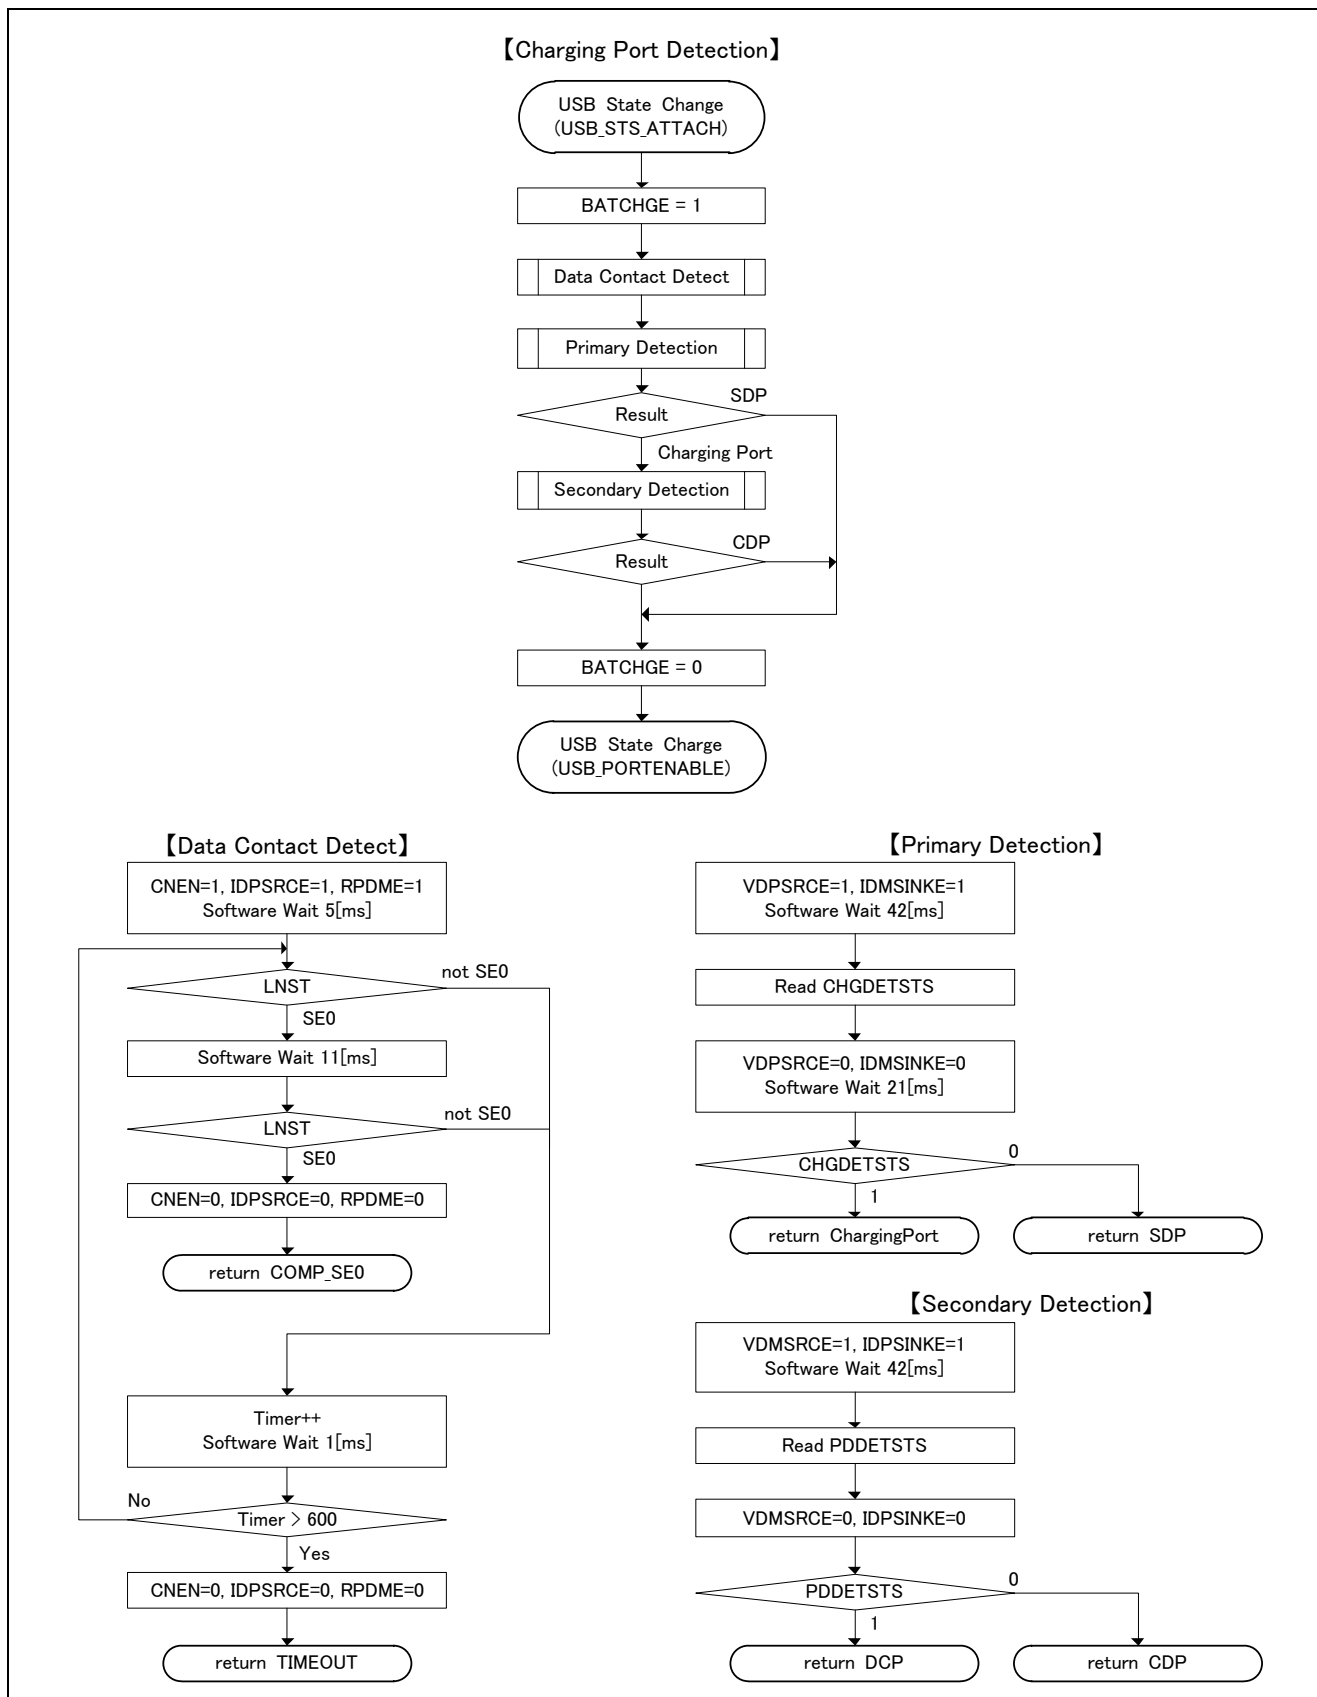

Figure 2-1 PBC processing flow
9. The processing flow of PBC is shown in Figure 2-1.